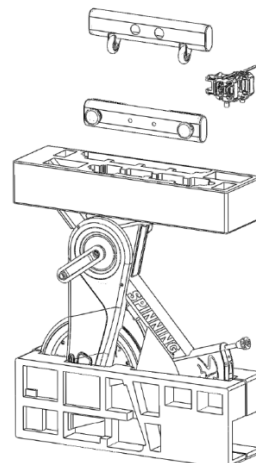

Fig 6
6. Tilt the packaged Spinner frame towards the heavy flywheel end (Fig. 6) and remove the following: front foot assembly, pedal set, & the rear foot assembly from their packaged location.